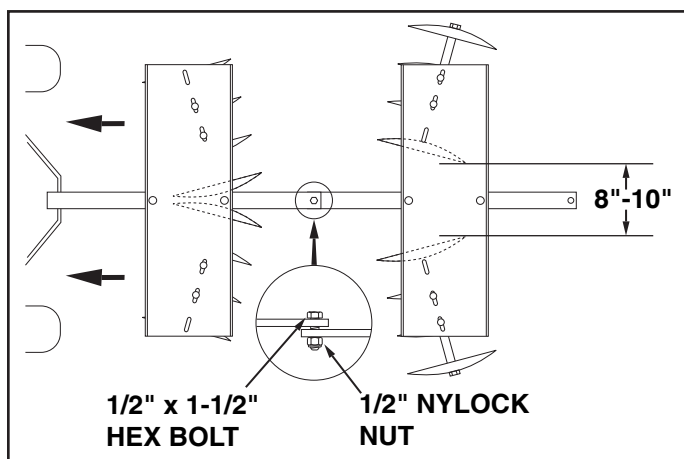

FIGURE 8
2. Attach the rear cultivator to the front cultivator by fastening the rear drawbars together using a 1/2" x 1-1/2" hex bolt and a 1/2" nylock nut. Do not completely tighten the nut, allowing a slight amount of play between the rear drawbars. See figure 8.
5. To use two cultivators in tandem, the disc assemblies should be positioned as shown in figure 8, with the inside discs almost touching on the front cultivator and 8" to 10" apart on the rear cultivator. With this arrangement the front cultivator will throw the dirt to the outside and the rear cultivator will throw the dirt back to the inside.